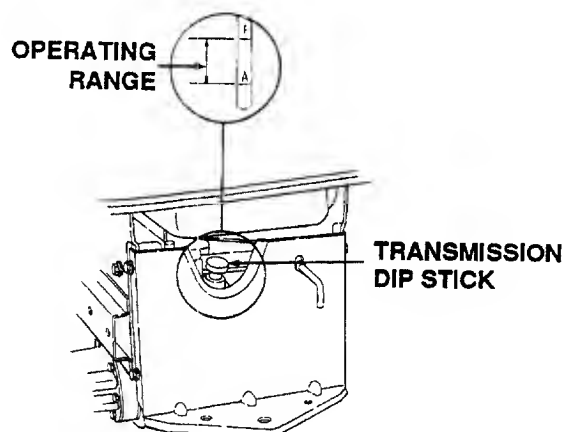

Figure 22
Check the oil level of the transmission case before each use to see that it is filled to the correct level. Before checking the transmission oil level, clean the area around the oil fill plug/dipstick to prevent debris from entering the transmission case. Always keep the oil level between the "FULL" and the "ADD" marks on the dipstick (See Figure 22). When checking the oil level, the dipstick must be withdrawn and wiped clean, then inserted all the way before being withdrawn for a true reading.
3. Remove the oil fill plug/dipstick from the oil fill port and SLOWLY pour oil into the oil fill port. Fill the transmission case until the oil level reaches the "FULL" mark on the dipstick (Refer to Figure 22).
6. Remove the oil fill plug/dipstick from the oil fill port and SLOWLY pour oil into the oil fill port. Fill the transmission case until the oil level reaches the "FULL" mark on the dipstick (Refer to Figure 22).